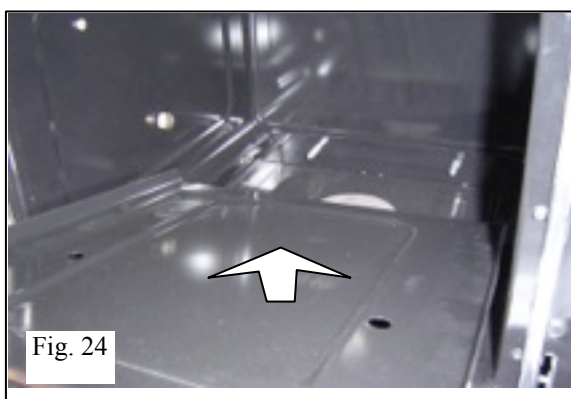
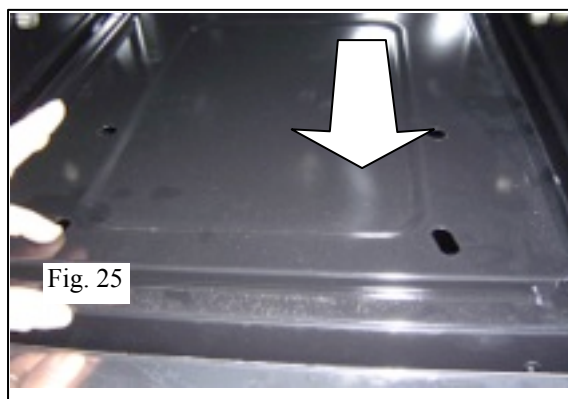

Fig. 24
Fig. 25
-Withdraw the baseplate (Fig.24). **CAUTION:** when refitting, slide the baseplate underneath the lip at the oven front (fig.25).
-Remove the baseplate, **CAUTION:** when refitting, slide the baseplate underneath the lip at the oven front (Fig. 24 & 25).